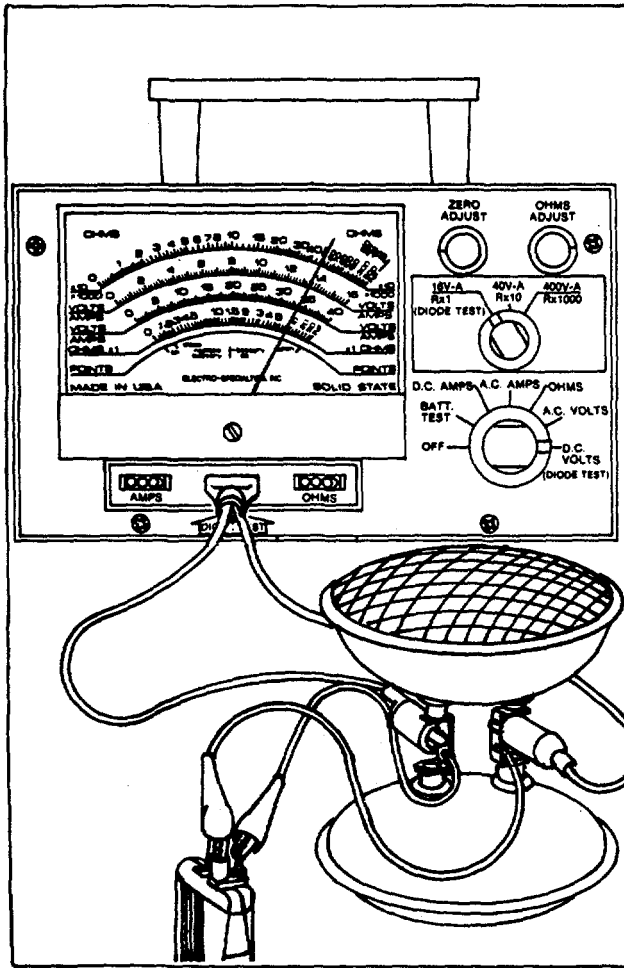

Fig. 51 - Battery Charger Tester
- B. Battery discharged. See Fig. 51.
Solder the two headlights together with wires, and connect the voltmeter as shown in the accompanying illustration. Fig. 51.